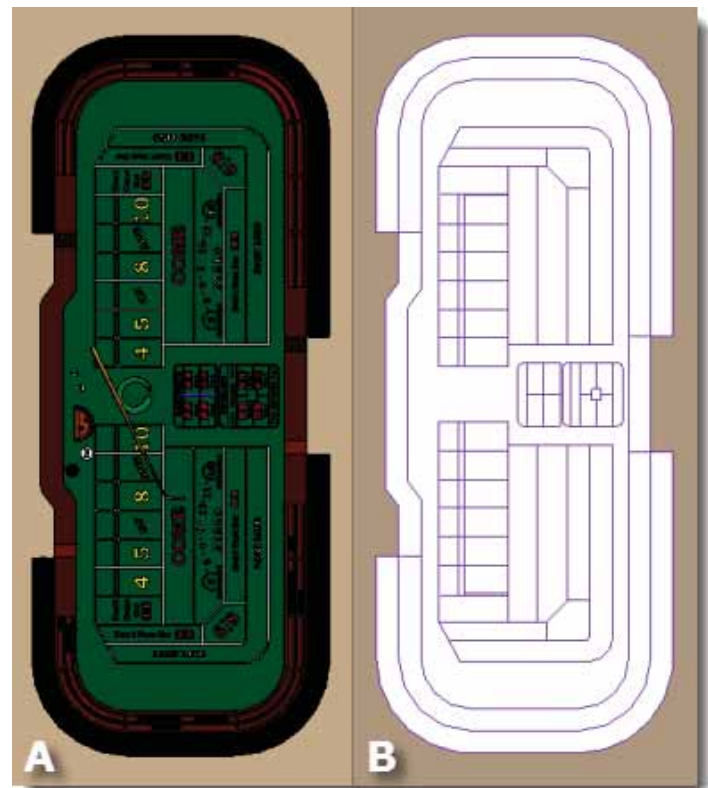

Figure 22 - Two plan views of a casino craps table
Take a look at the two plan views of a casino craps table shown on Figure 22.
Unless you're required to do a detailed colored presentation of a furniture layout (A, Figure 22), furniture symbols will suffice. The craps table symbol (B, Figure 22) are represented as purple 2D lines with a masking region (Annotate tab>Detail panel). The neat thing about this is it displays fast like a 2D family. The 3D elements are still there but were set not to display on floor plans.
In Figure 22 (B), symbolic lines were drawn inside the perimeter of the table while the boundary was created with a masking region (Annotate tab>Detail panel). When loaded in a project file, the masking region obscures the floor finish beneath it. If that's not the effect you want, of course you can use symbolic lines as boundaries. Here are a few things to consider when creating a family symbol: